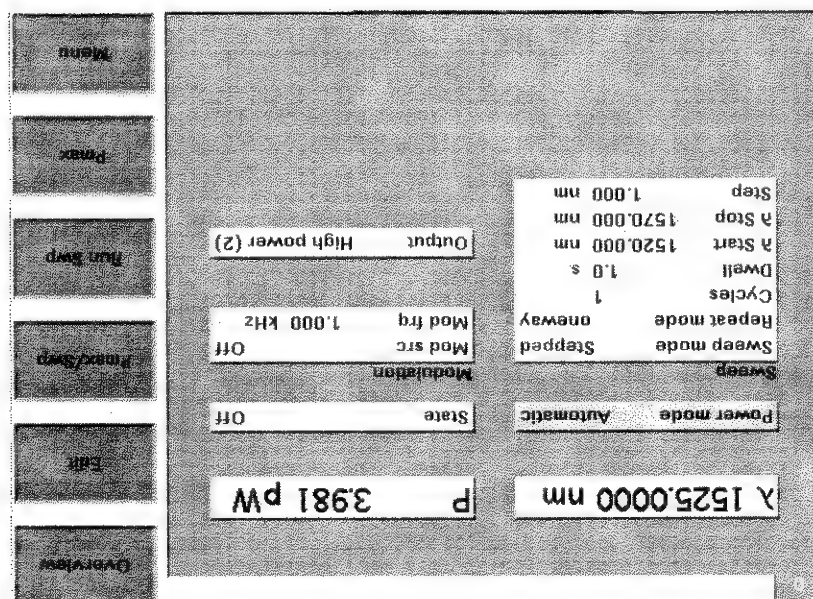

Figure 61 Setting High Power parameters
- <High Power (2)>, a high power optical output, for use in testing Erbium Doped Fiber Amplifiers (EDFAs), you see a screen similar to Figure 61,
- 6 If [Power Mode] is not set to <Manual Att.> (see Figure 61), that is, it is set <Automatic>, perform the following steps: